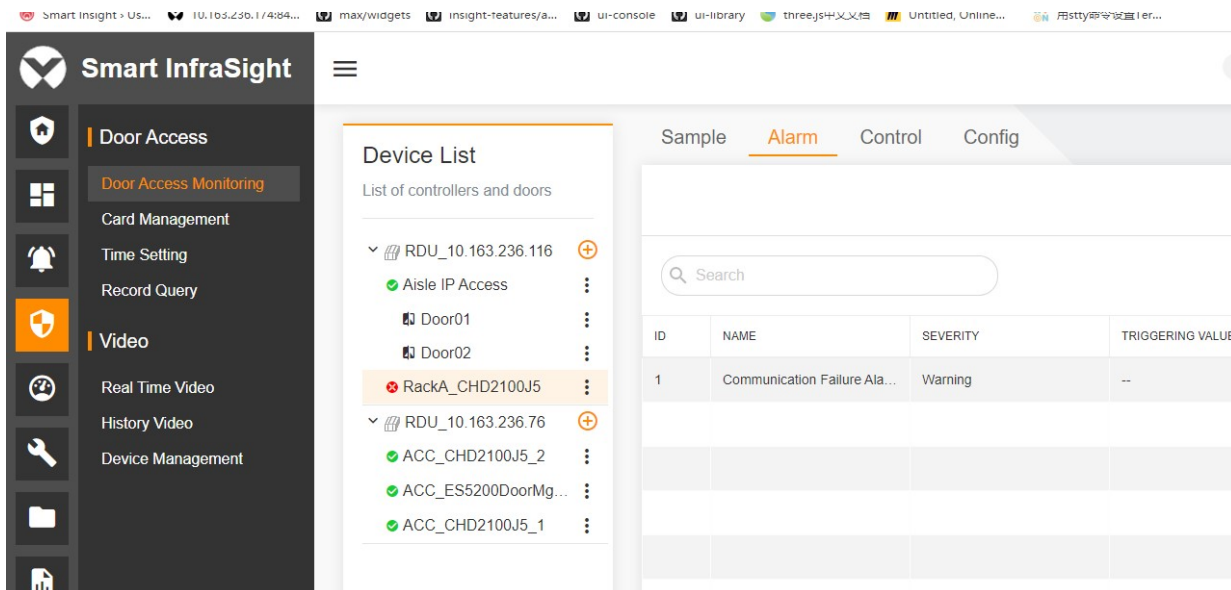

Figure 13-27 Active Alarms
1. On the **Door Access Monitoring** page, select an IP access controller, a door connected to the IP access controller, or a serial access controller. Click the **Alarm** tab on the right side. The system lists the active alarms of the selected device, as shown in Figure 13-27. When new alarms are generated, the alarm list is automatically refreshed.